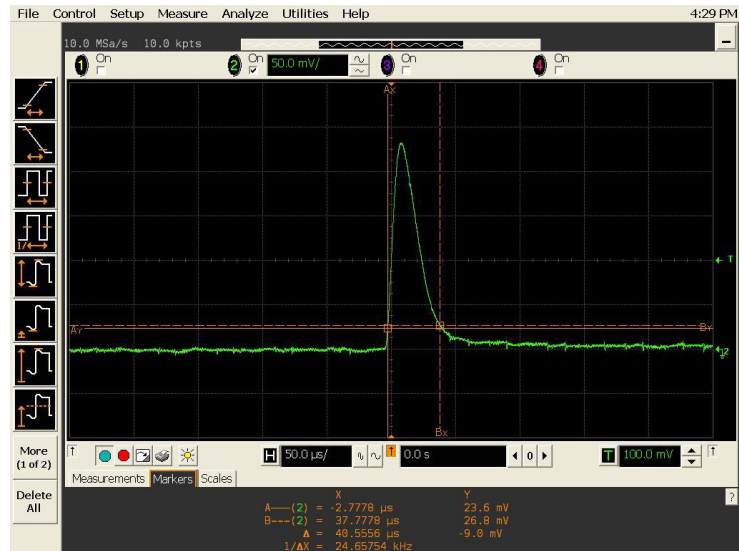

Figure 1-17 Graph of load transient response time for S1 range
- 4 Connect an additional electronic load across the front panel **+** (red) and **-** (black) output terminals in parallel with a oscilloscope. Operate the electronic load in the constant current (CC) mode.
- 7 Adjust the oscilloscope to display transients as shown in Figure 1-17. Note that the pulse width ($t_2 - t_1$) of the transients at 15 mV from the base line should be no more than 100 μ s for the output.